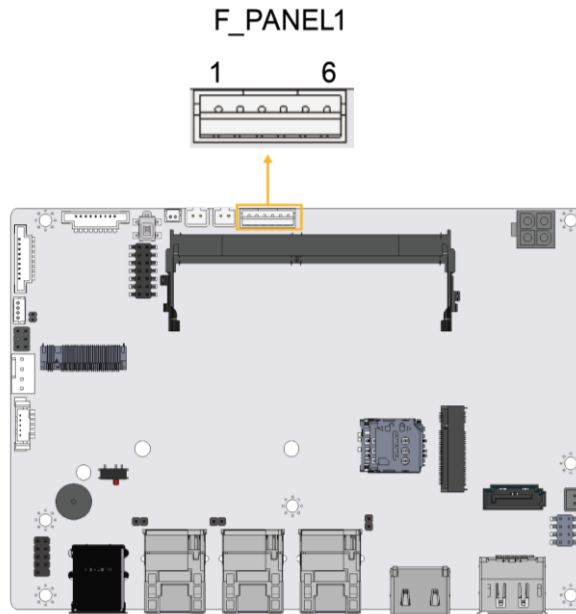

Figure 3-9: Power LED & HDD LED Connector Location
- CN Location:** See Figure 3-9